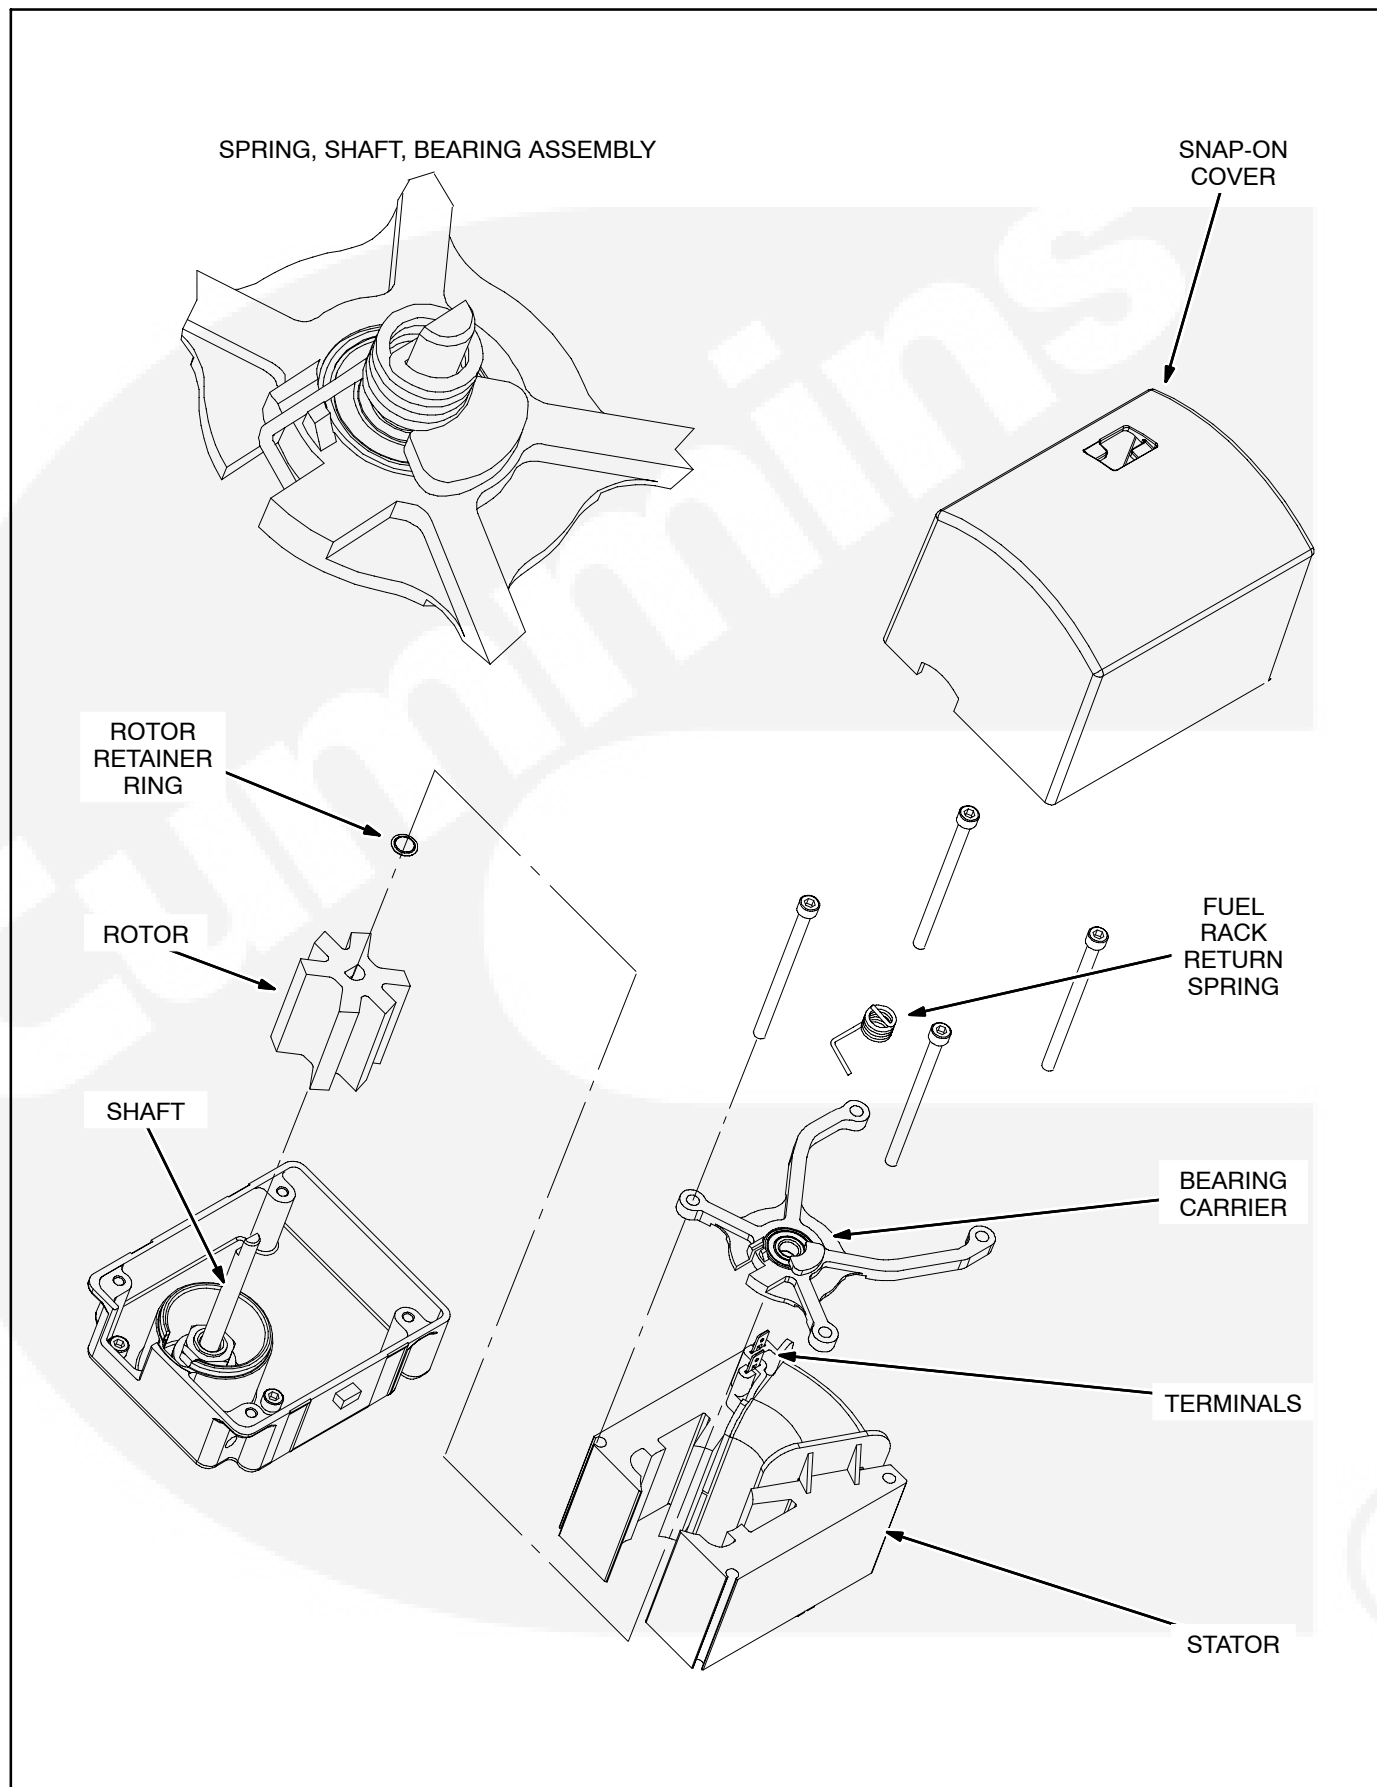

FIGURE 13-1. GOVERNOR ACTUATOR
The governor actuator (Figure 13-1) is powered by the genset controller to position the fuel rack (Figure 13-2) according to load demand.
7. Check the fuel rack return spring for wear and replace it if worn. This spring returns the fuel rack to the no-fuel position. Push the spring on over the flat on the shaft and then pry the leg into its slot in the bearing carrier (Figure 13-1). The extension below the knee must catch under the bearing carrier. Finally, push the spring down as far as it will go on the shaft.